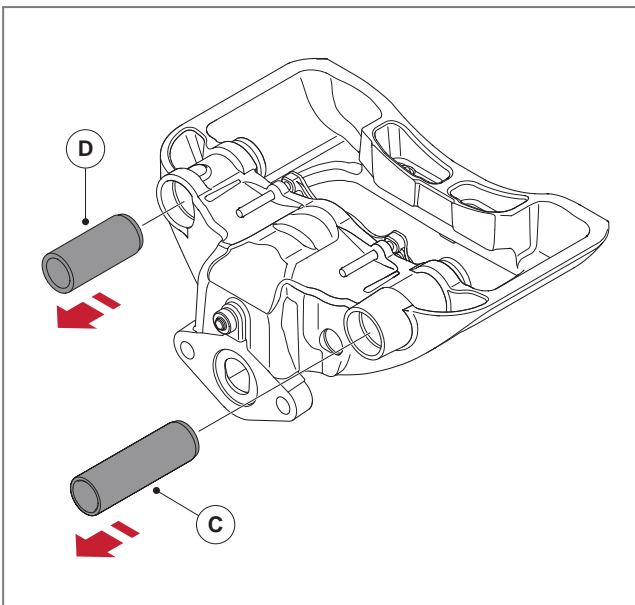

Fig. 59 - Removing the guide pins
5. By hand, push out the fixed bearing (C) and floating bearing (D), see ► Fig. 59.